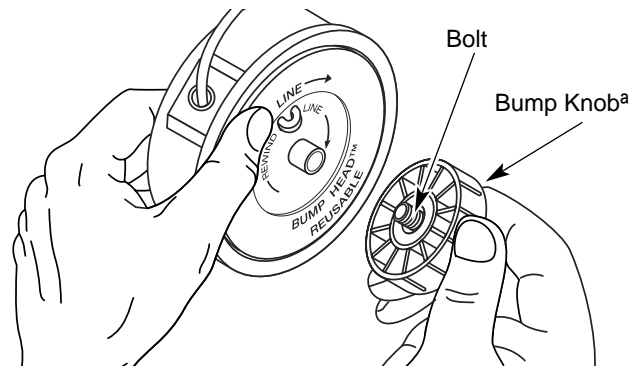

Fig. 15
1. Hold the outer spool with one hand and unscrew the Bump Knoba counterclockwise (Fig. 15). Inspect the bolt inside the Bump Knob to make sure it moves freely. Replace the Bump Knob if damaged.
1. Hold the outer spool with one hand and unscrew the bump knob counterclockwise (Fig. 15). Inspect the bolt inside the bump knob to make sure it moves freely. Replace the bump knob if damaged.